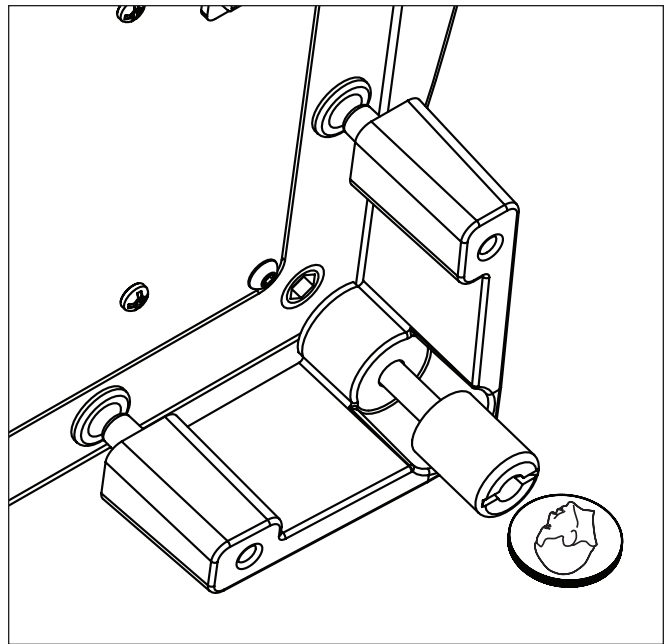

Figure 10. To change woofer orientation, use a coin to unscrew the attached feet, change location, and reinstall.
- 2 Carefully lay the subwoofer on its side. Using a coin, unscrew the attached feet. (see figure 10).
- 4 Using a coin, reinstall the feet (see figure 10).